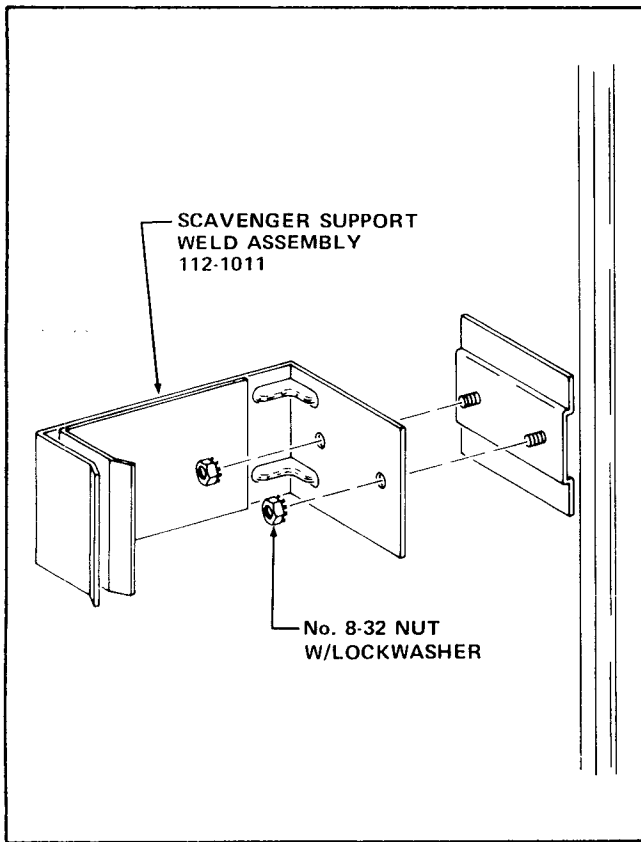

FIGURE 6-7
47. Install the Scavenger Support Weld Assembly, Part Number 112-1011, included in the Kit, on the Bracket on the right inside wall of the Cabinet using two No.8-32 Nuts with Lockwashers. See Figure 6-7.